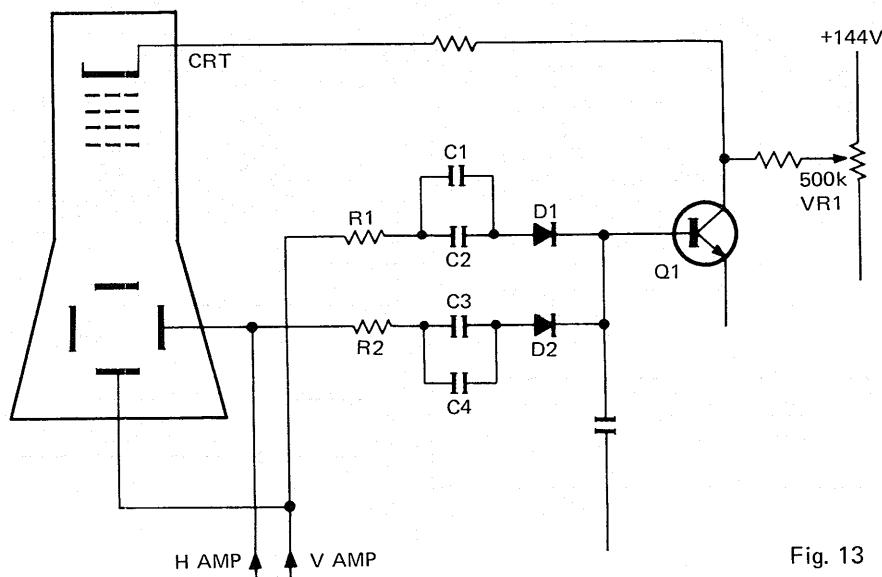

Fig. 13
5.5 SPOT KILLER CIRCUIT (Fig. 13)
The purpose of this circuit is to protect the CRT's fluorescent screen when there is no or almost no deflection, i.e. when the image on the screen is a spot or a straight line. Basically, this is done by a switching transistor inserted in the CRT cathode circuit; switching is performed by the INPUT 1 and/or INPUT 2 input signals to the scope in the following manner. Fig. 13 shows the simplified circuit diagram. The switching transistor Q1, is connected with its base to both the vertical and horizontal deflection plates through resistors R1, R2, capacitors C1 ~ C4 (which isolate the transistor from the high DC voltage at the deflection plates) and through diodes D1, D2. The deflection input signals which are applied to the deflection plates are rectified by diodes D1, D2 to produce a forward bias for Q1.